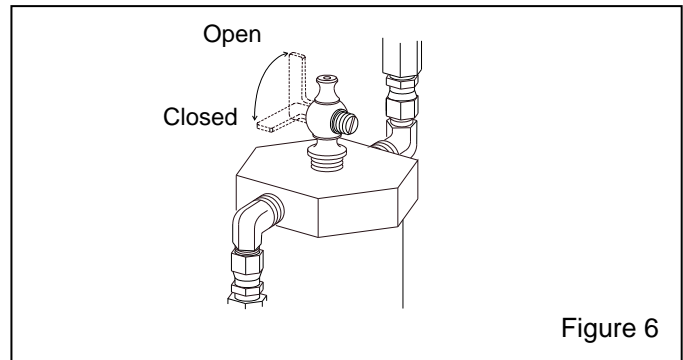

Figure 6
3.2.9 Make sure that the safety petcock located on the inlet valve is open. Open position is when the lever is inline with the petcock, as shown in Figure 6.